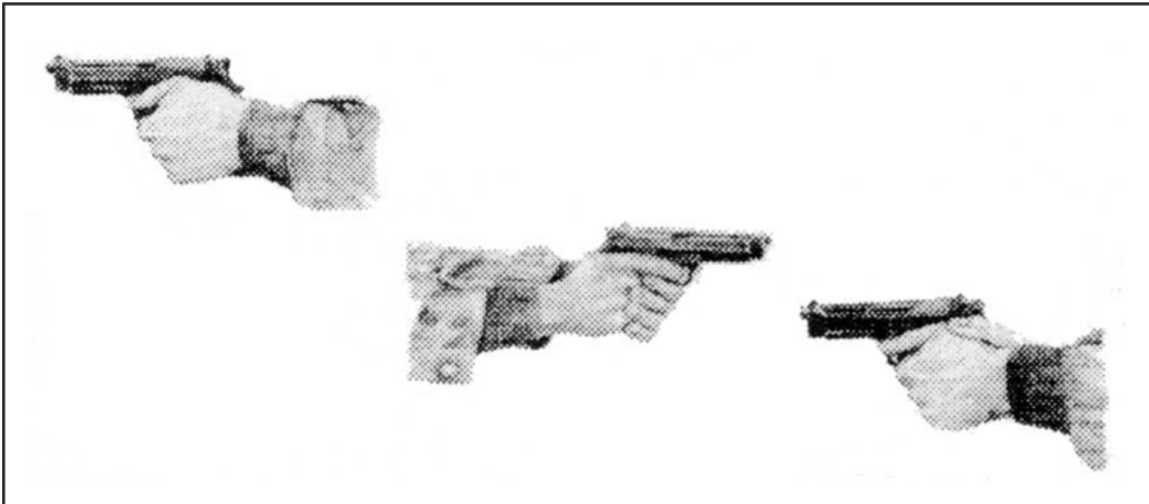

Figure 1. Proper Pistol Grip
- (1) Hold the pistol in the nonfiring hand, and form a vee with the thumb and forefinger of the shooting hand.
- (2) Place the pistol in the vee with the sights in line with the firing arm.
- (3) Wrap the lower three fingers around the grip, putting equal pressure to the rear with all three fingers (Figure 1).